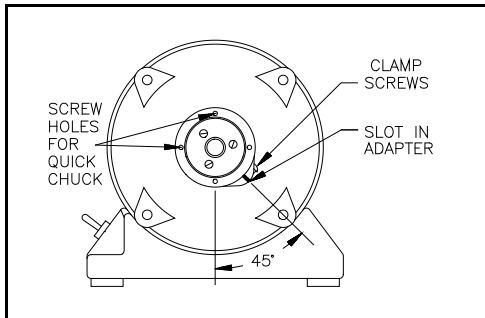

Figure 8. Right end view
- 8.2 Position the adapter with the clamp screws in the rear. The slot should face down at a 45 degree angle. See Figure 8. The screw holes for the Quick Chuck should be aligned vertically and horizontally.